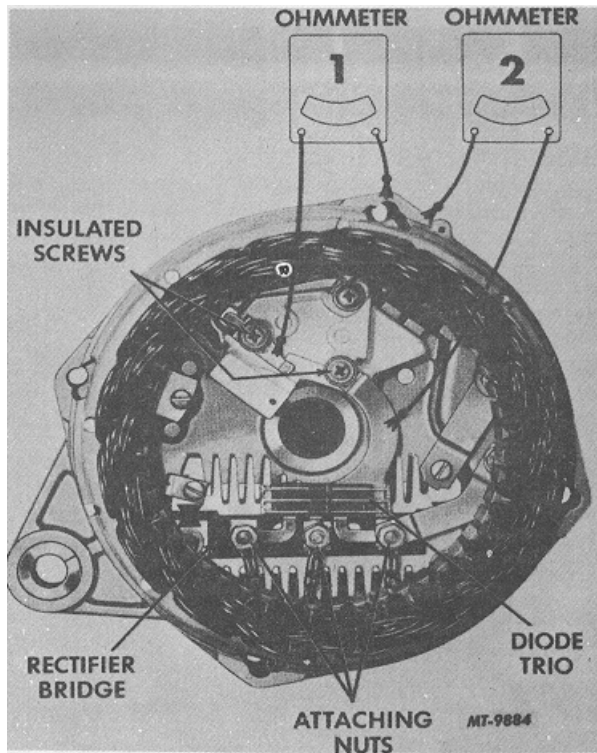
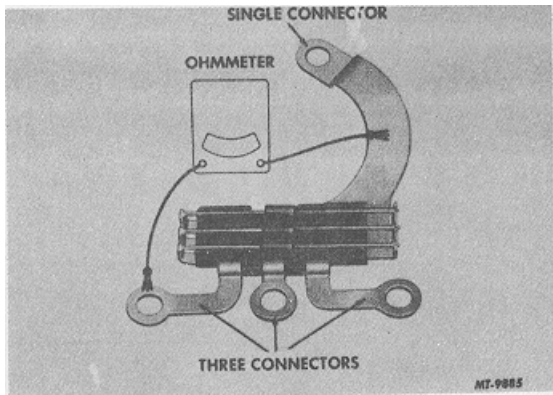

Fig. 6
Fig. 8
- b. Connect ohmmeter using lowest range scale from brush lead clip to end frame as shown in Step 1, Fig. 6; then reverse lead connections.
- d. A grounded brush lead clip can result from omission of insulating washer, Fig. 6, omission of insulating sleeve over screw, or damaged insulating sleeve. Remove screw to inspect sleeve. If satisfactory, replace regulator as covered under "Brush Holder and Regulator Replacement."
The diode trio is identified in Fig. 6. To check the diode trio, remove it from the end frame assembly by detaching the nuts and attaching screw. Connect an ohmmeter having a 1 1/2 volt cell and using the lowest range scale to the single connector and to one of the three connectors, Fig. 8. Observe the reading. Then reverse the ohmmeter leads to the same two connectors. If both readings are the same, replace the diode trio. A good diode trio will give one high and one low reading. Repeat this same test between the single connector and